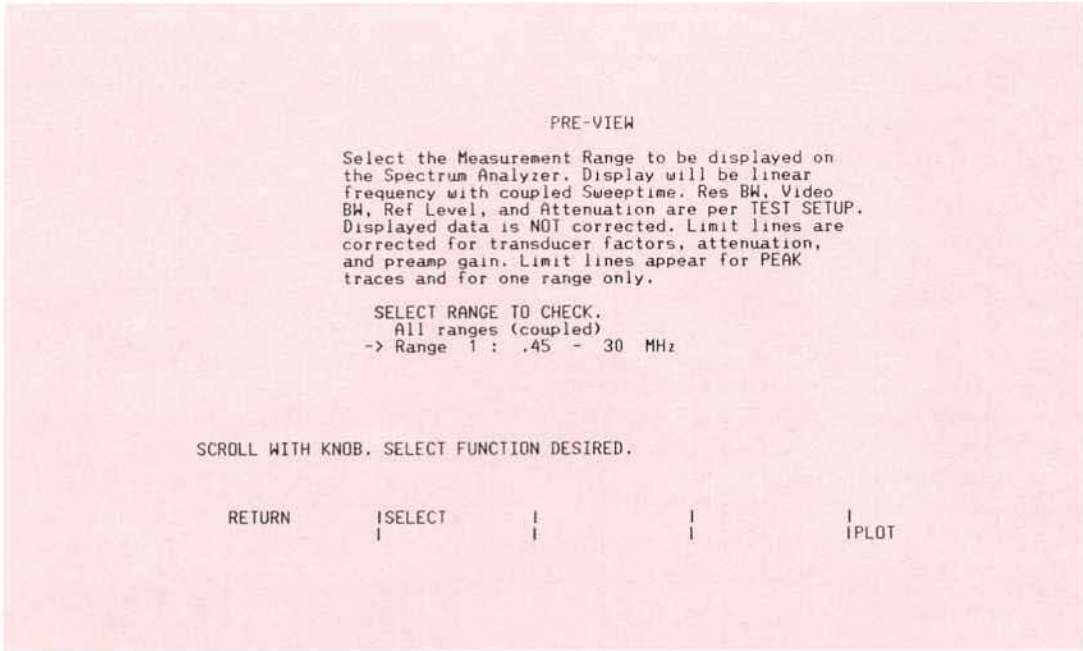
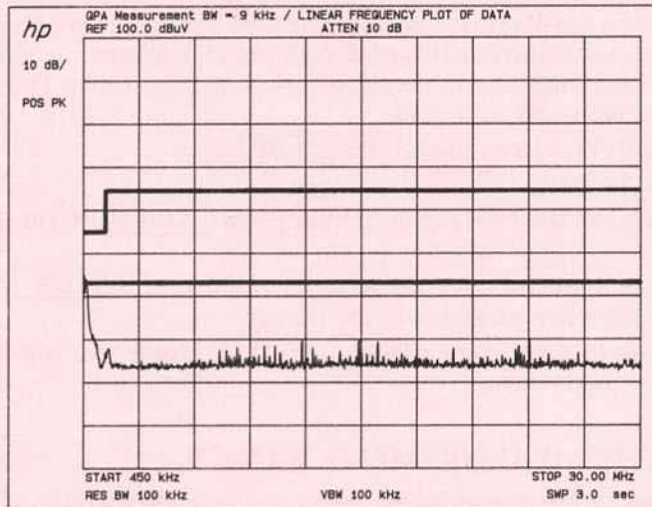

Figure 11. PRE-VIEW Selection Screen for FCC Conducted Test
Figure 12. Spectrum Analyzer Display for Preview Mode Showing Limit Lines
Figure 11 shows the preview selection screen. With the computer data knob, position the arrow adjacent to the transducer range to be previewed. Figure 12 shows the spectrum analyzer preview display with composite limit lines.
- Select transducer range of interest (see Figure 11)